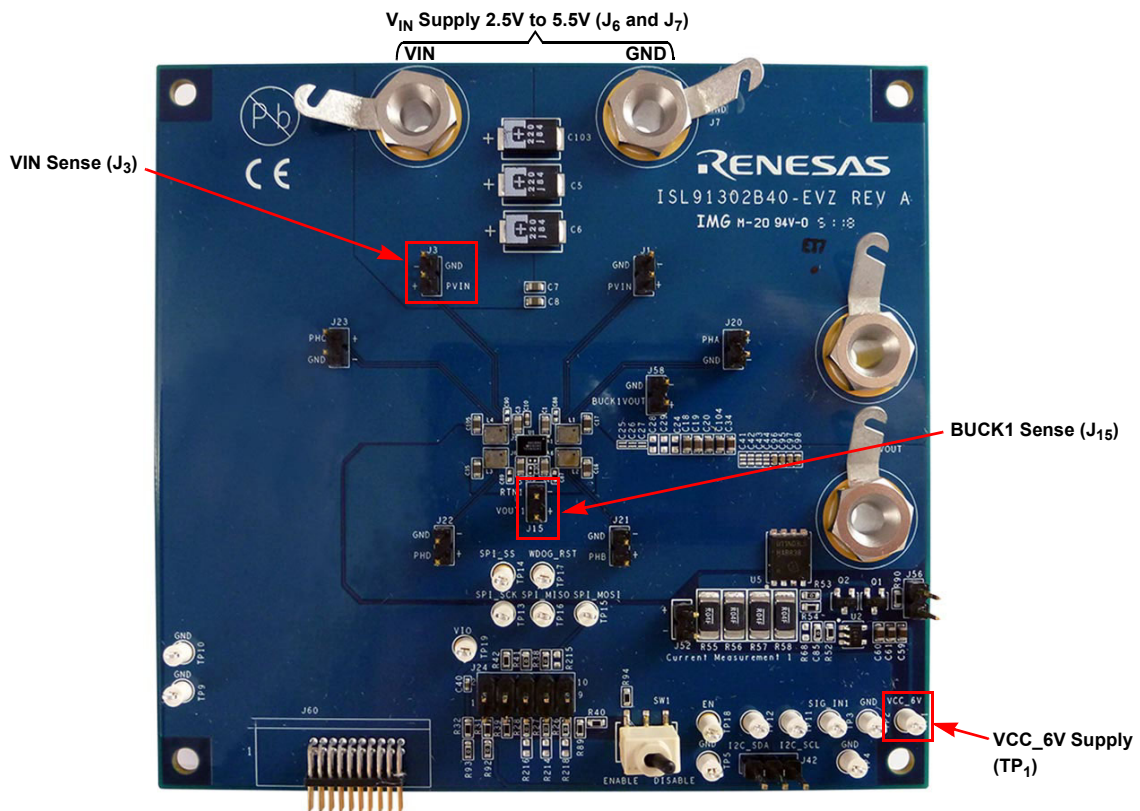

Figure 11. ISL91302B40-EVZ Efficiency Measurement Connections
- (1) Connect a power supply at J₆ (VIN supply), with the voltage setting between 2.5V and 5.5V. Set its current limit high enough to support the maximum load current with additional headroom. If the power supply supports remote sense lines, use a Kelvin connection on J₃. Otherwise, connect a multimeter at J₃.
- (2) Apply 6V to TP₁ (VCC_6V) to initiate the startup sequence.
- (3) Turn on the electronic load at VOUT1. The connection should be made at J₃₅ (VOUT1). Make sure the load current does not exceed 5A per phase, and the correct wire gauge is used when attaching the electronic load.
- (4) Measure the output voltage with a multimeter. The voltage should regulate within datasheet specification limits.
- (5) To determine efficiency, measure input and output voltages at the Kelvin sense test points (S+ and S-), which are located at J₃ (VIN SENSE) and J₁₅ (BUCK1 SENSE). Measure the input and output currents from the VIN power supply and the electronic load. Calculate efficiency based on these measurements. For detailed setup information, refer to Figure 11 on page 11.